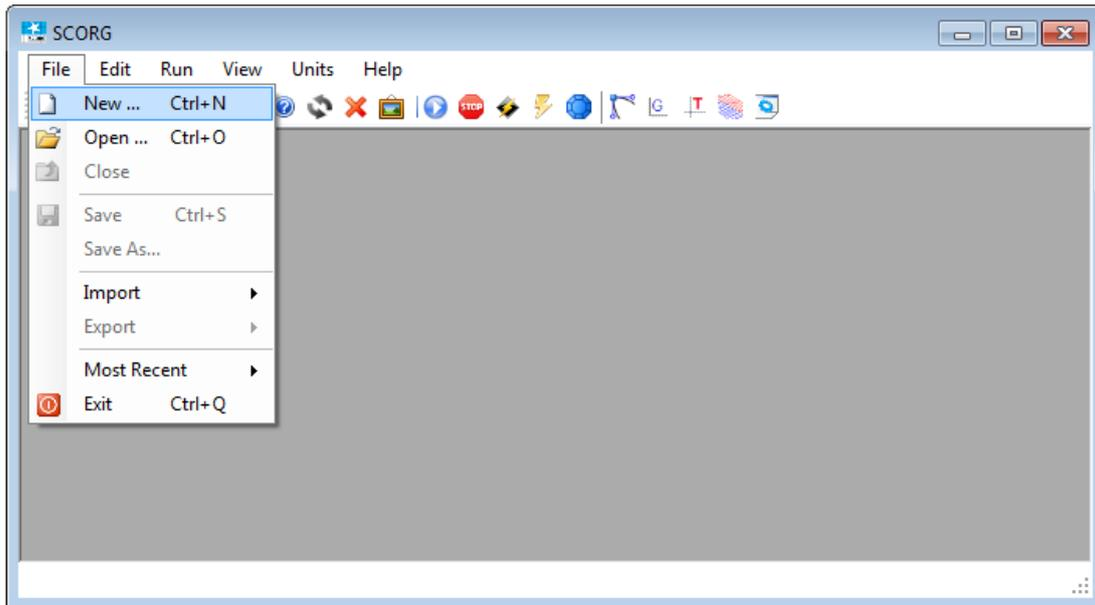

*Figure 1-1 Pressure Variation diagram of a Twin Screw Compressor (Kovacevic, et al., 2007)*
- Obtain the pressure field inside the rotor chamber and in the suction and discharge domains. Example shown in *Figure 1-1*.